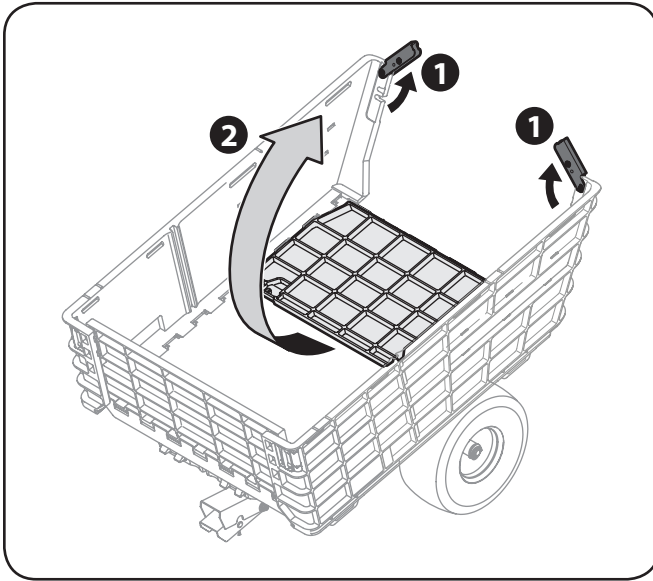

Figure 3-7
- Lift the tailgate latches and then lift the tailgate into place. See Figure 3-7.